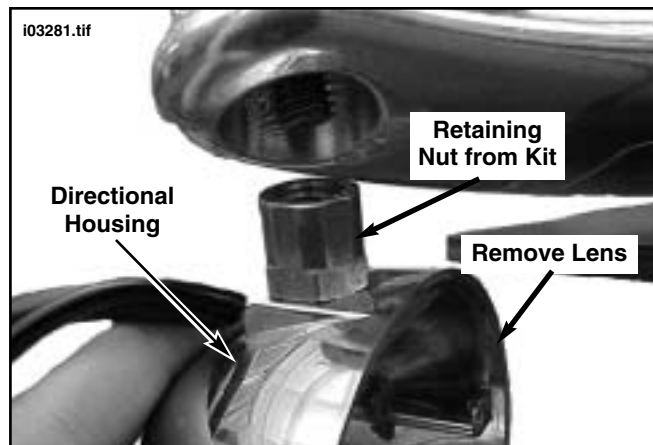

Figure 4. Install Retaining Nut from Kit
13. See Figure 4. Install retaining nut (P/N 68323-01) from kit to directional housing and snug into place. Remove lens from directional housing.
17. See Figure 4. Install retaining nut (P/N 68323-01) from kit to directional housing and snug into place. Remove lens from directional housing.